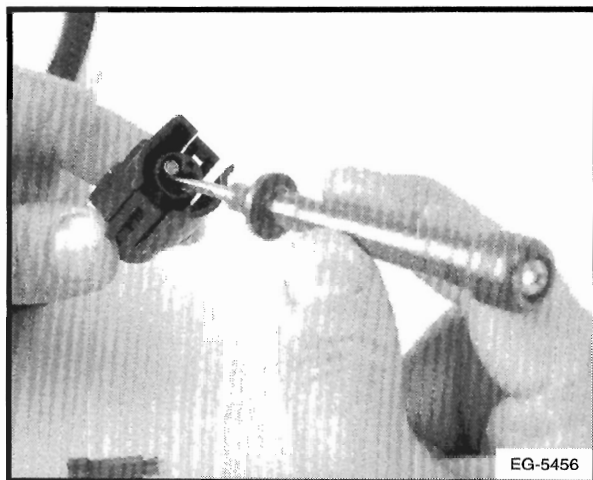

Figure 6-21. – Release Retaining Finger
2. Insert a narrow blade into the connector to lift the retaining finger away from the terminal (Figure 6-21.).